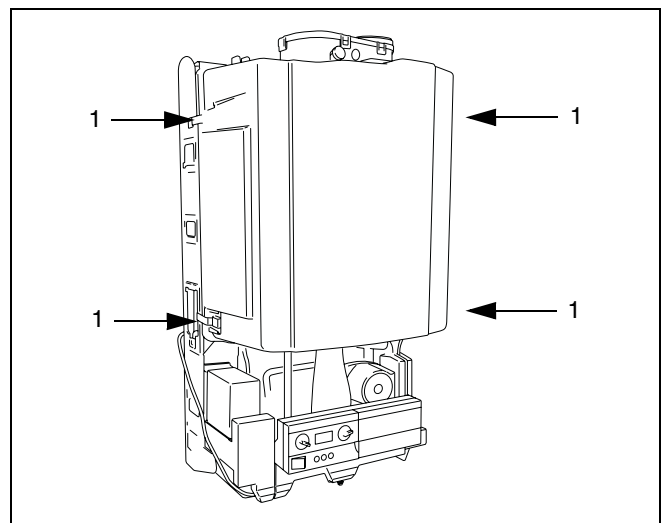

fig. 49 Remove the ventilation cover
- Remove the security screw and casing (fig. 49, item 1).
- Remove the ventilation cover (see fig. 49).